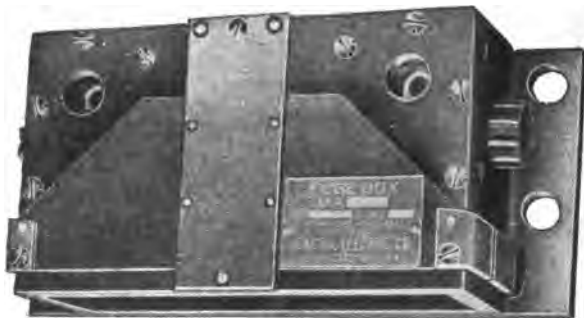

Fig. 509. Motor Fuse Box.
53. MOTOR FUSE BOX (Fig. 509) (see paragraph 12, Suburban Cars, for general description of this type of fuse box). There are four of these fuse boxes,